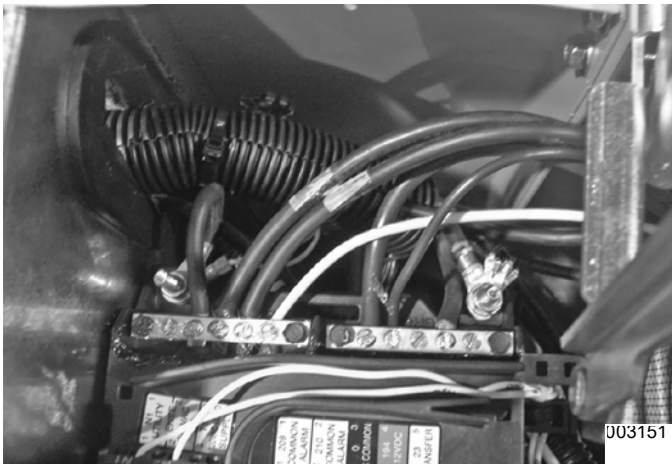

Figure 5-5.
4. **Remove Stator Wires:** See Figure 5-5. Remove all wires from the main circuit breaker, remove the neutral and ground wires from landing lugs.